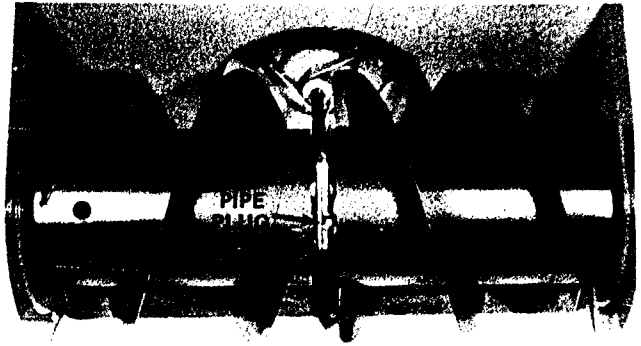

Figure 32
5. Put a drain pan below the pipe plug (Fig. 32) at front of auger gear box; then remove pipe plug.
8. Thread pipe plug back into gear box (Fig. 32).